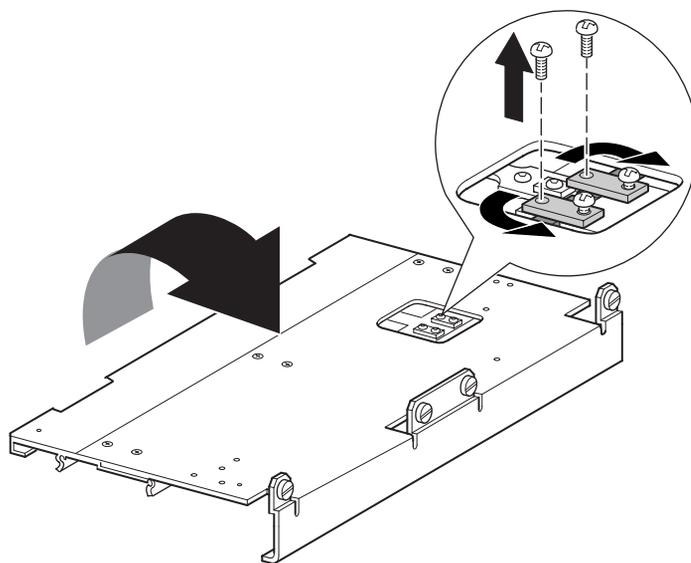

Figure 15: Belt block bracket access cutout
4. Turn the PTM over to access the belt block bracket access cutout (see Figure 15 on page 37).
5. Remove one screw from each of the two belt block brackets. Loosen the other screw and move each belt block bracket to the side to gain access to the drive belt (see Figure 15 on page 37).